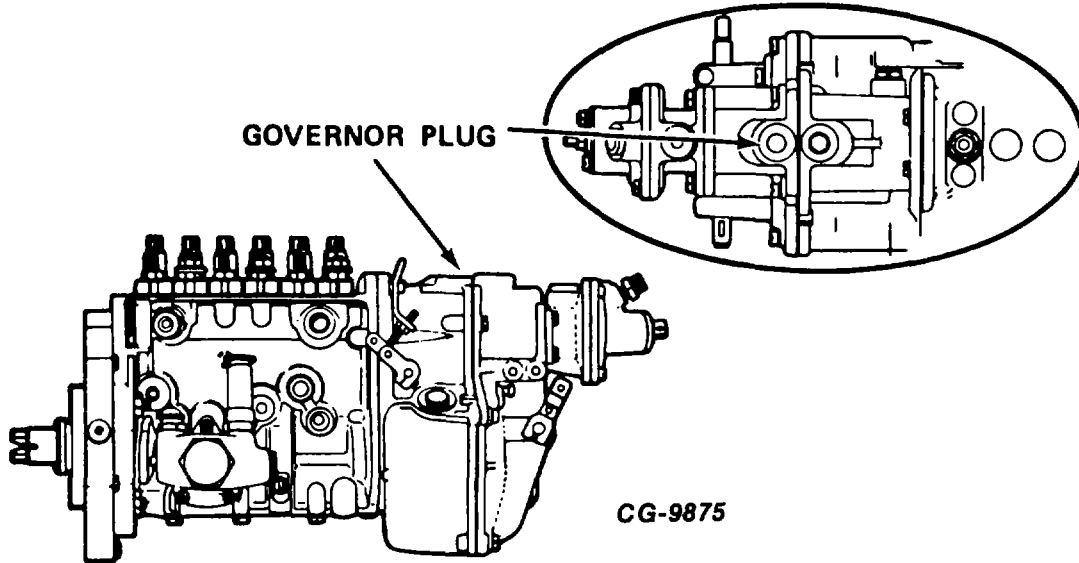

Figure 25 - Governor Housing Plug
16. Add minimum of one pint of engine oil to governor through the upper governor housing plug (Figure 25). Because injection plug is splash lubricated, engine oil must be added to a replacement pump.